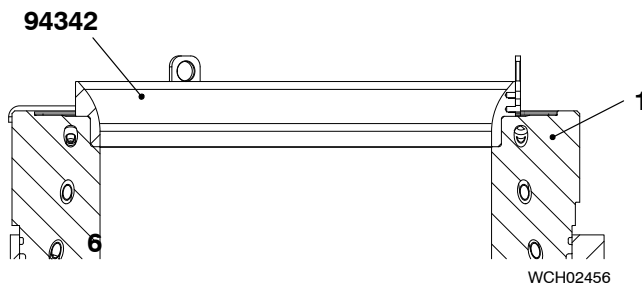

Fig. 8
- 1) Put oil on the bore of the cylinder liner (1, Fig. 8) and the surfaces of the insertion funnel (94342).
- 2) Put the insertion funnel (94342) in position on the cylinder liner (1).